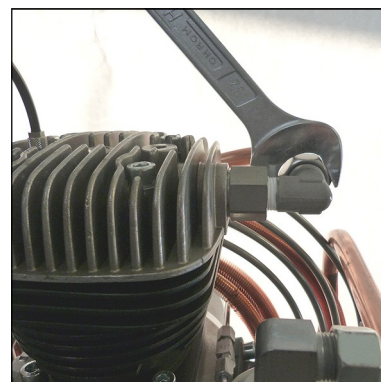

Fig. 6 - Connect pipe connections and tighten
- Connect pipe connections and tighten (Fig. 6).